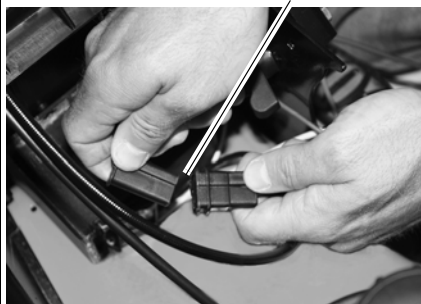

Figure 28
1. Connect battery charger to the wiring harness. See Figure 28.